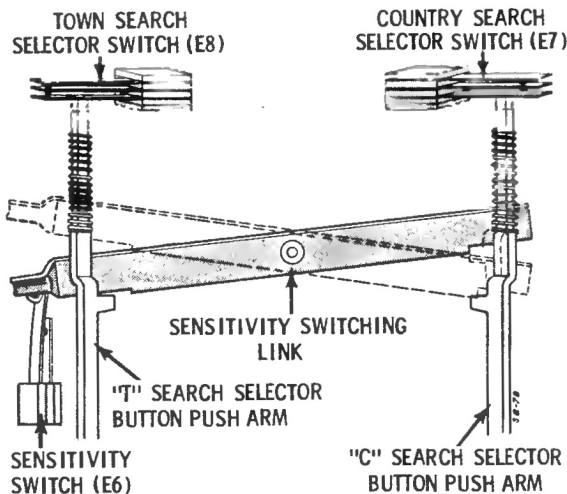

FIGURE 5. SWITCH OPERATIONS
1. The sensitivity switch E6 is either opened or closed by the action of the sensitivity switching link (see Figure 5 and SENSITIVITY SWITCHING) and one of the search selector switches (E7 or E8) is momentarily closed.
5. Contact B2 grounds the cathode resistor R13 of the RF and IF stages. While searching, when contact B2 is ungrounded, the bias of the RF and IF stages is determined by the position of switch E6 (see Figures 5 & 7). With switch E6 opened the bias is lowered while searching because the cathode circuit is completed to ground through the additional cathode resistor R15. With switch E6 closed the bias remains normal even while searching.
The sensitivity of the radio is automatically changed when one of the search buttons is depressed. The "T" button lowers the sensitivity of the radio by opening switch E6. The "C" button increases the sensitivity by closing switch E6 (see Figure 5). The position of the switch E6 affects the sensitivity only when the radio is searching. When the tuner stops on a station the sensitivity is returned to its normal strength.